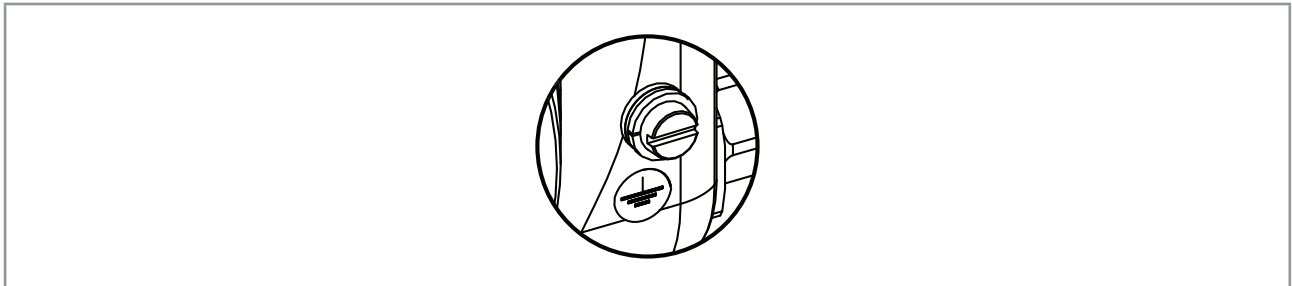

Fig. 29 : Functional earth screw on the outer surface of the device
- or to the functional earth screw on the outer surface of the transmitter housing (see Fig. 29).